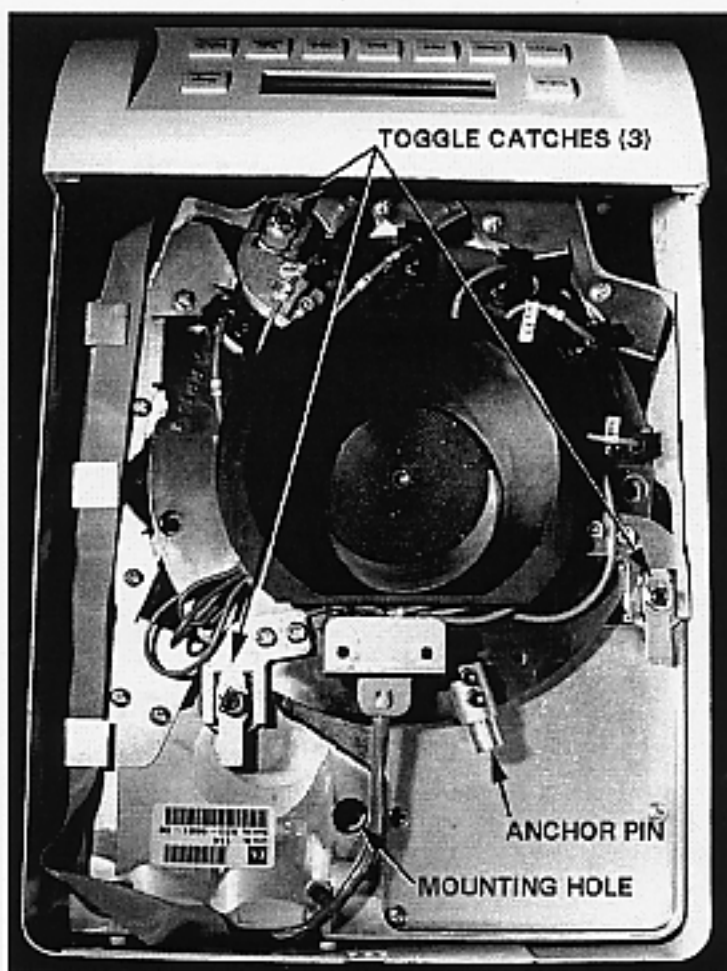

Figure 2 Sort Disk (Top View)
SORT DISK REMOVAL - Figure 2
2. Turn the three toggle catches parallel to the arms of the hold-down forks -- see Figure 2.